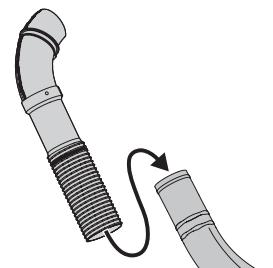

Figure 34
7. Install the upper chute tube onto the discharge chute elbow as shown in Figure 34.